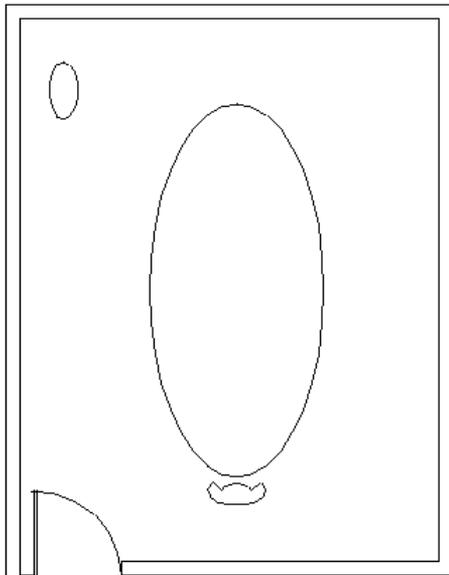

Figure 7-8: The conference room with a conference table, a chair, and a side table.
9. Save your drawing. It should look like Figure 7-8.